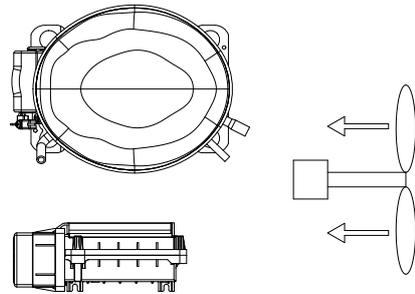

Figure 3.9: Option 1
- The electronic Inverter must be installed in the vertical position. Refer to Figures 3.9 till 3.14 for recommended assembling positions.
Acceptable positions of fan + compressor + inverter are shown in the Figures 3.9 to 3.14.